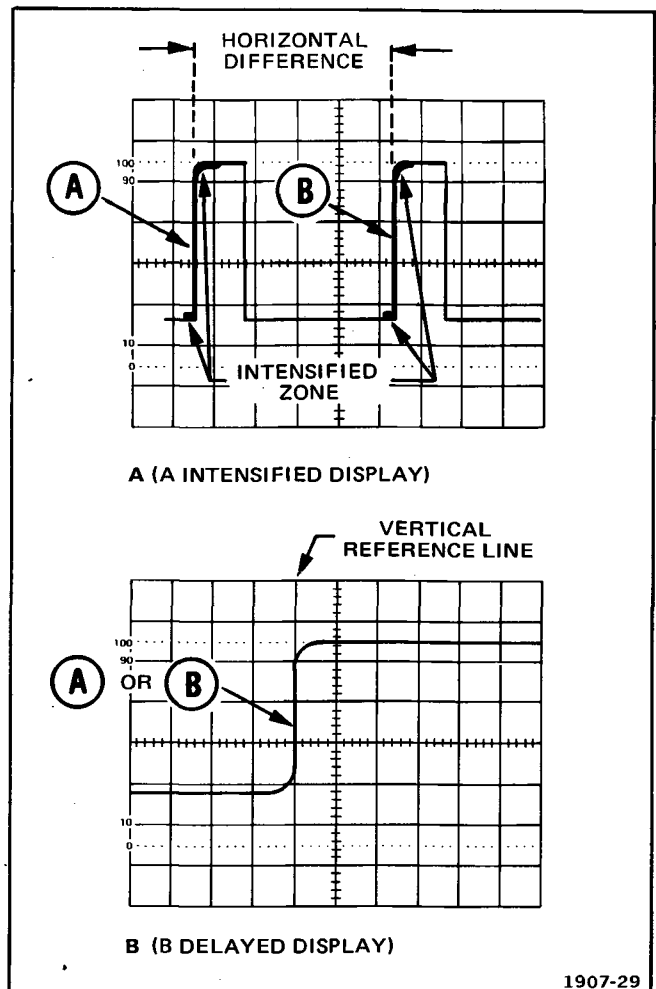

Fig. 2-13. Time difference between pulses.
1. Set the A TIME/DIV switch and the horizontal POSITION control to locate both time measurement points within the graticule area (see Fig. 2-13, A).
4. Rotate the DELAY TIME POS (DTP) control so that the first time measurement point is in the center of the intensified zone (see Fig. 2-13, A).
6. Slightly readjust the DTP control to move the first time measurement point to some vertical reference line (see Fig. 2-13, B). Note the DTP control setting.
7. Adjust the DTP control to move the second time measurement point to the same vertical reference line (see Fig. 2-13, B). Note the DTP control setting.
The A TIME/DIV switch was set to 0.2 ms/division and the B TIME/DIV to 10 μs/division. The first DTP control setting was 0.88 (at point A, Fig. 2-13, A) and the second was 5.57 (at point B, Fig. 2-13, A).